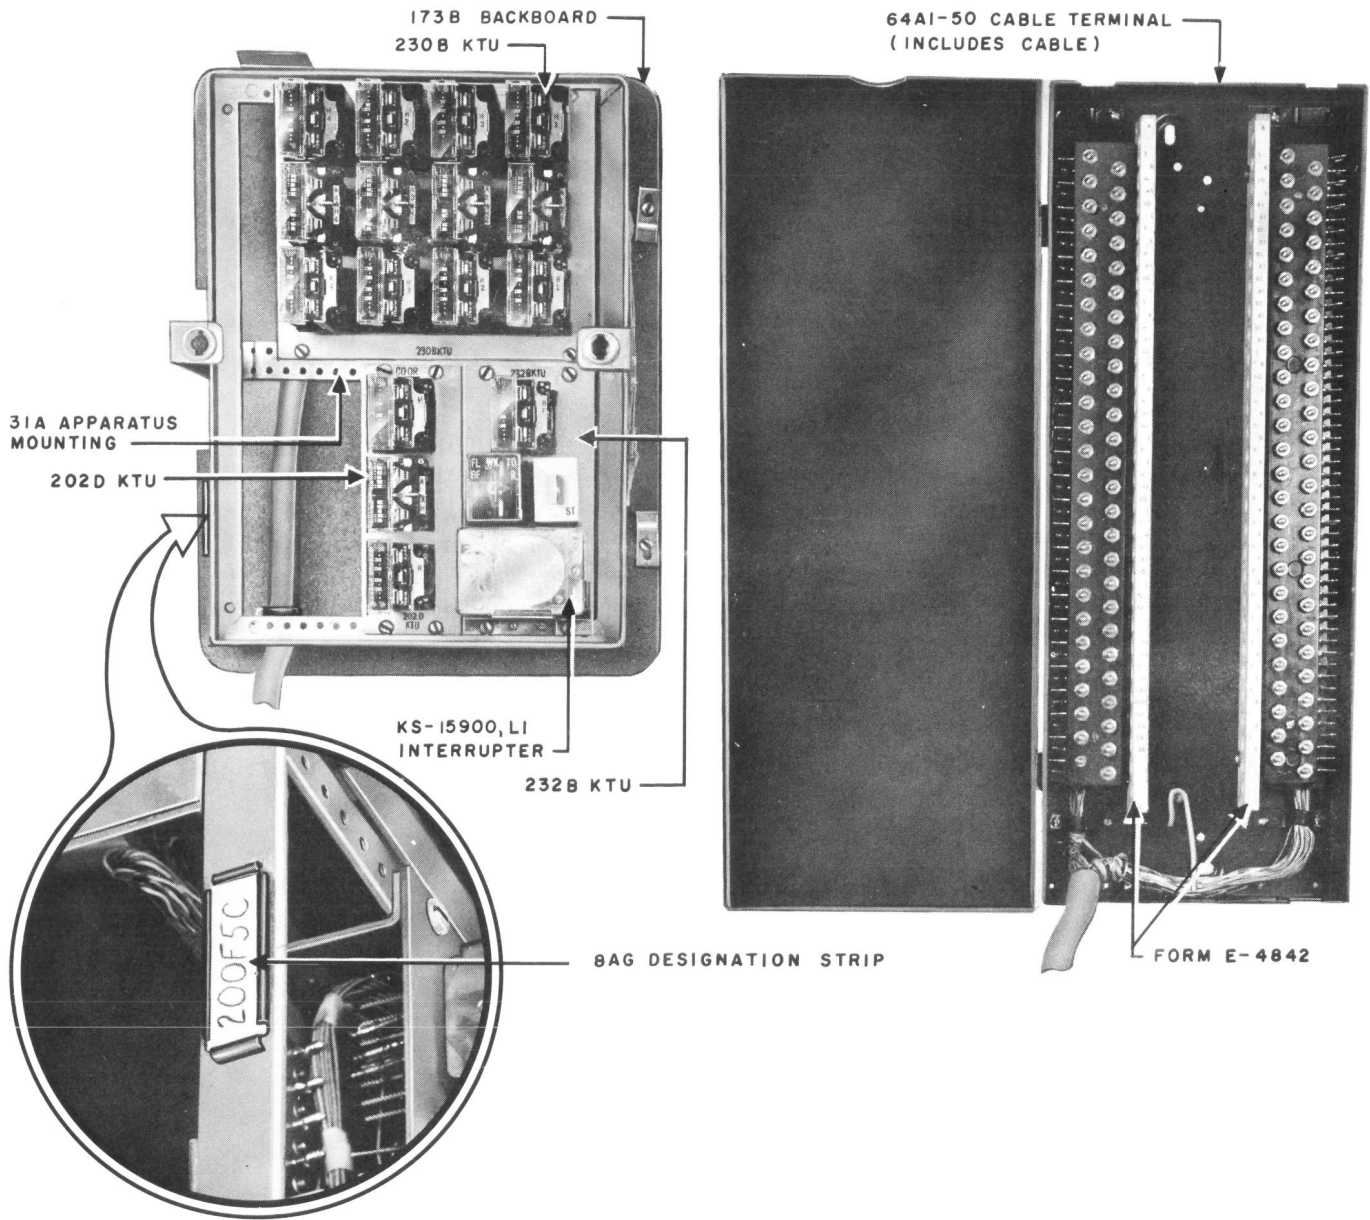

Fig. 1 — 200F5C KTU (Without Cover)
2.02 The 200F-type key telephone units consist of panel-type key telephone units mounted and factory-wired on a 31A apparatus mounting. The 31A apparatus mounting hinges on a 173B backboard and is enclosed in a 116A cover. Fig. 1 shows a 200F5C KTU without cover.
- Form E-4842 consists of two dual strips (each pair marked "A" and "B") preprinted to conform to the feature layout of the 200F-type KTU (Fig. 1).